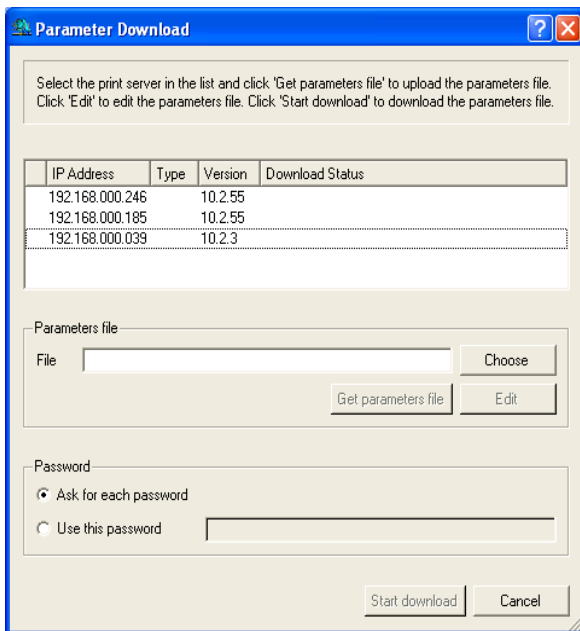

Fig. 52: InterCon-NetTool - Parameter Download
3. *Select **Actions – Download – Parameters File** from the menu bar. The **Parameter Download** dialog appears; see Fig. 52 ⇨ 188.*
3. *Select **Actions – Download – Parameters File** from the menu bar. The **Parameter Download** dialog appears; see Fig. 52 ⇔ 188.*
3. *Select **Actions – Download Parameters File** from the menu bar. The **Parameter Download** dialog appears; see Fig. 52 ⇨  188.*